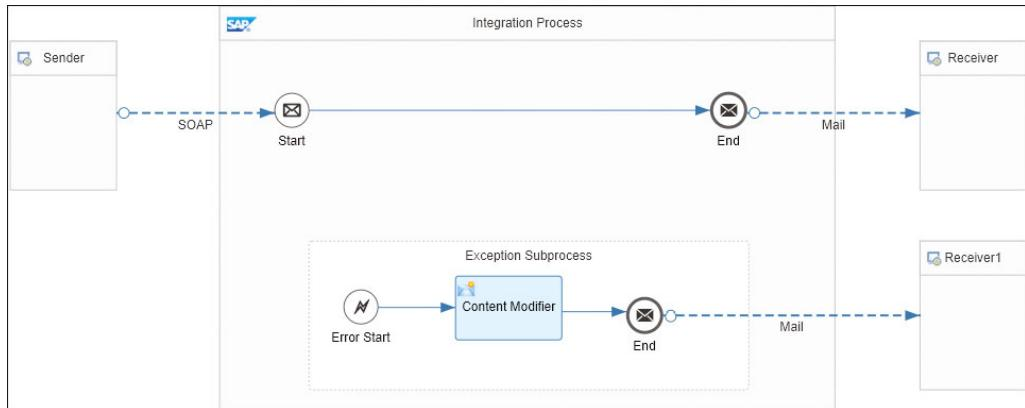

Figure 6.47 Final Integration Flow
5. Connect the message **End** event of the **Exception Subprocess** with a second **Receiver**, and select the **Mail** adapter as the connectivity option. You can use the same **Mail** adapter settings as for the first receiver connected to the main **Integration Process** (Figure 6.47).
Make sure, however, to refer to another **User Credentials** artifact for the **Mail** lower connection in Figure 6.47. The idea is to enforce an exception by editing the **User Credentials** artifact (referenced in the upper **Mail** connection between the **End** message event of the main process and the upper **Receiver**), and enter a wrong password there. Therefore, to make sure the error details are received in your mail account, in the lower **Mail** adapter (connecting the **End** message event of the **Exception Subprocess** with the email server), use another **User Credentials** artifact with the correct credentials. Note that for simplicity, we'll use one and the same email account for the different email receivers like we did in the integration flows before.